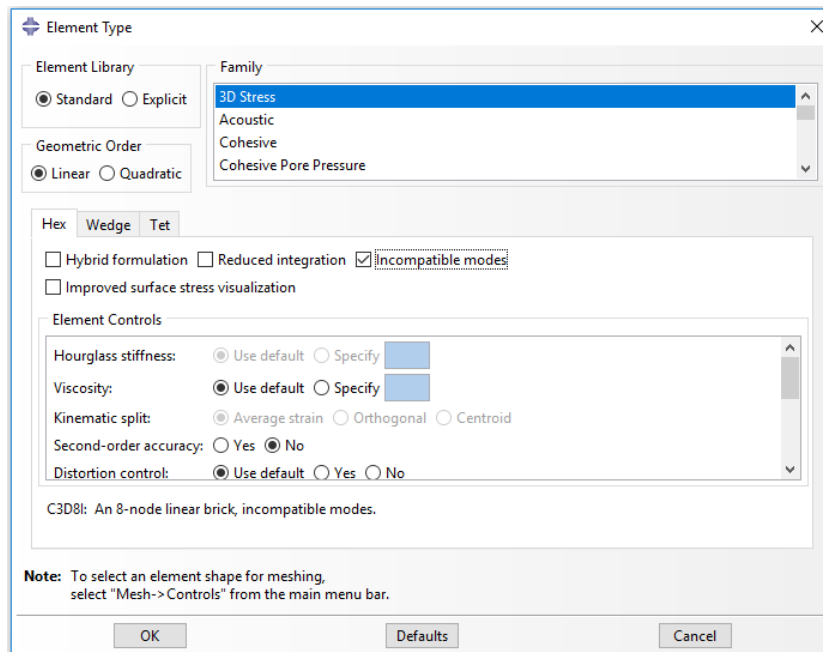

Figure 1-25 – The Element Type dialog box.
2. In the **Element Type** dialog box, as shown in Figure 1-25. Accept the following default selections that control the elements that are available for selection: